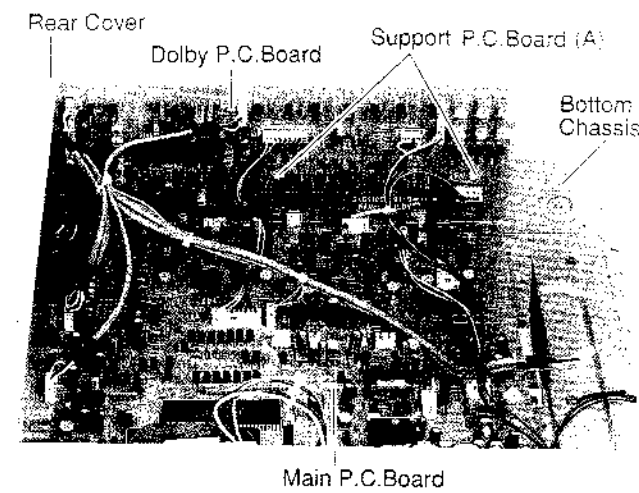

Figure 6
- (1) After removal of the Top Cover, remove two Support P.C.Boards (A), by pushing the "B" point as shown in Figures 6 and 7.
- (2) Disconnect all connectors from the P.C.Board.